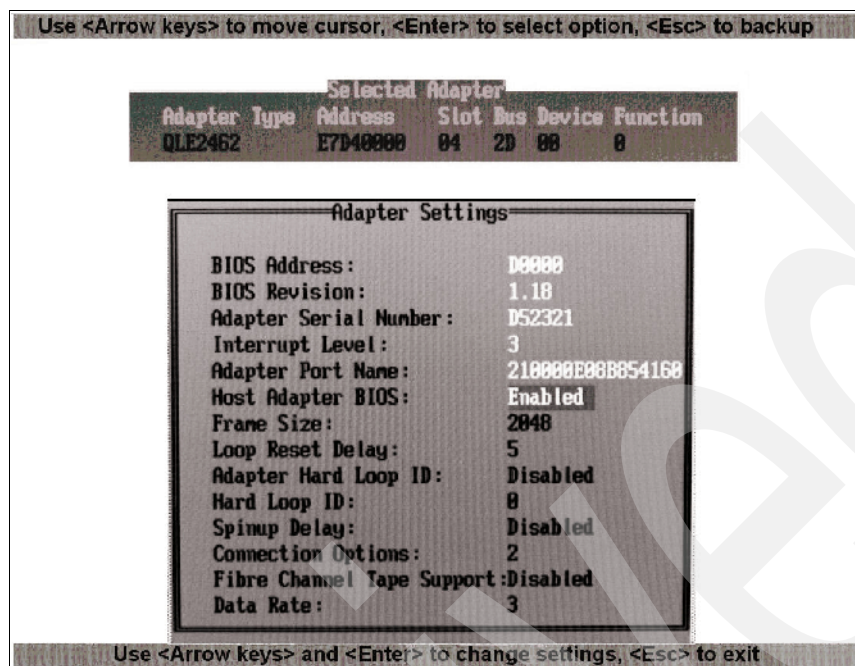

Figure 26-5 Adapter Settings
- The Adapter Port Name field shows the HBA port WWN. In our case, the WWN is 21:00:00:E0:8B:85:41:60 (see Figure 26-5). Record this value.